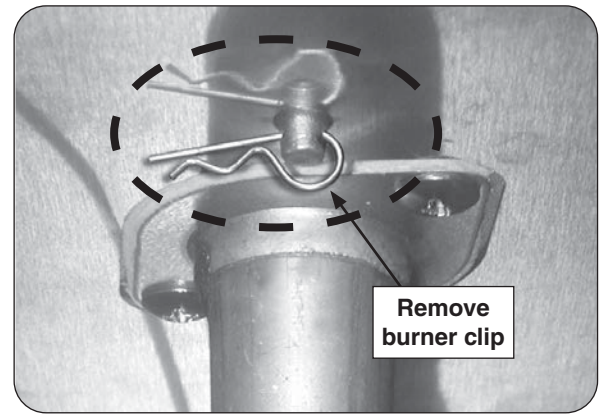

Fig. 27-1 Remove burner clip
3. Reach up under the burner support and remove the burner retaining clip (see Fig. 27-1), located at the rear of the burner pipe.
7. Replace the burner retaining clip (underneath burner). Reference Fig. 27-1.